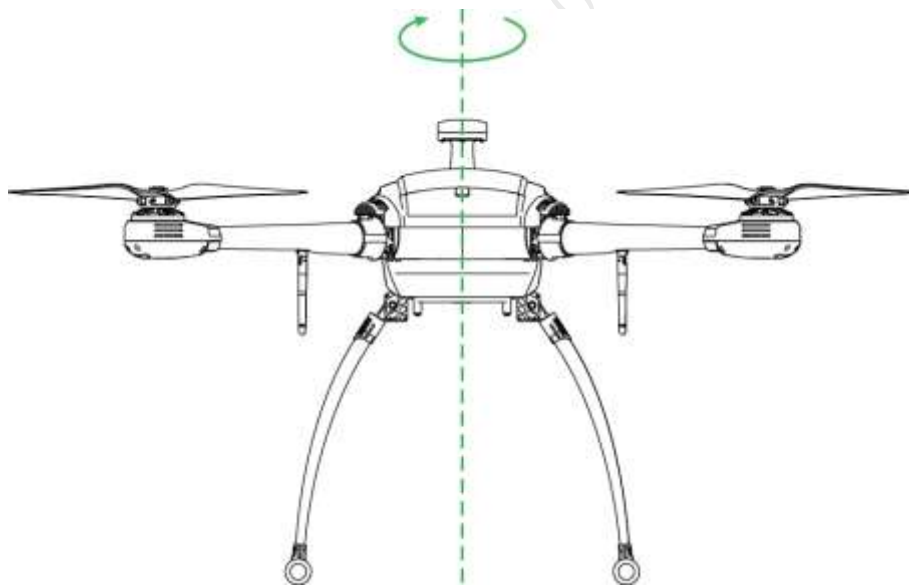

Figure 3-34
Step 3 Keep the aircraft horizontal and rotate it for one circle horizontally, as shown in Figure 3-34.